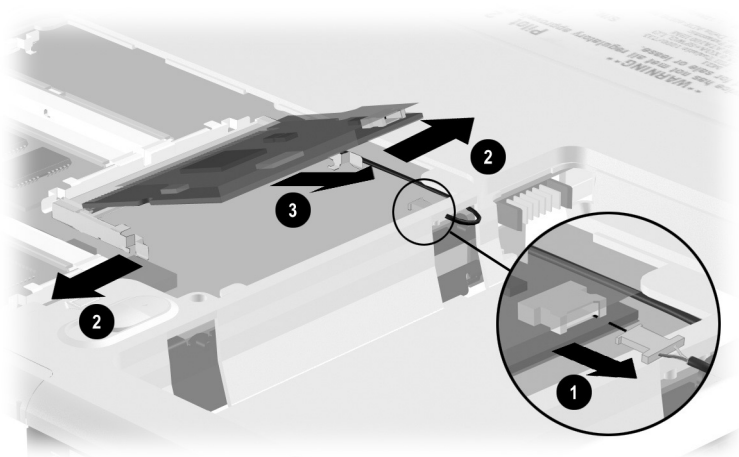

Figure 5-9. Removing the Modem Board
4. Disconnect the modem cable from the modem board ❶ (Figure 5-9).
5. Spread the retaining tabs ❷ on each side of the modem board. The board releases and rests at an angle.
6. Remove the modem board by pulling it away from the socket at an angle ❸.